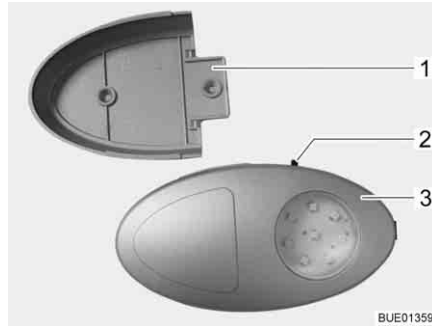

Fig. 61 Wardrobe light
- ▷ The wardrobe light can be removed from its holder (Fig. 61,1) and used as a torch.
The On/Off switch (Fig. 61,2) is located directly on the wardrobe light (Fig. 61,3).